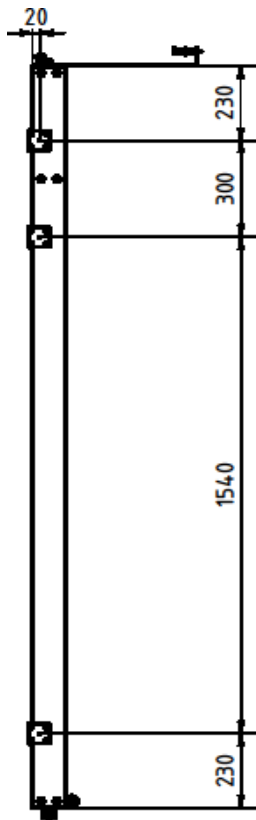

Figure 6: Attaching the hinges
Attach the fold-out section to the side of the adjacent fixed frame using the three hinges ⑭ and Spax screws ㉔, as shown in figure 6. Make sure the sections align with each other when folded in.
The next task is to attach the telescopic arm ㉖ (along with the star grip screw ㉗) to the frames using the coach bolts ㉘ and sleeve nuts ⑧. Use the hexagon nuts ㉙ and washers ㉚ to adjust the distance (see figure 6). The screws should be tightened to a point where the telescopic arm can still move, but no longer rattles.